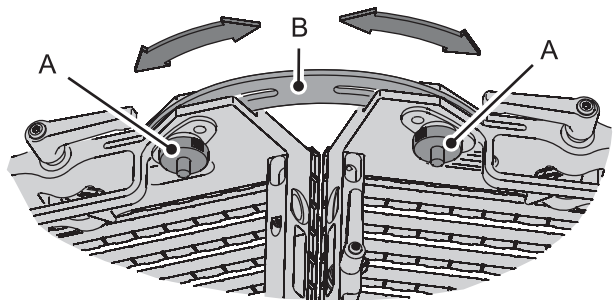

Figure 15: Locking panel angles in a curved array
4. See Figure 15. Install the thumbwheels **A** supplied in the Kit on the top and bottom profiles of each panel, using the supplied locknuts to secure them in place so that they will not drop out of the panel if loosened too much.